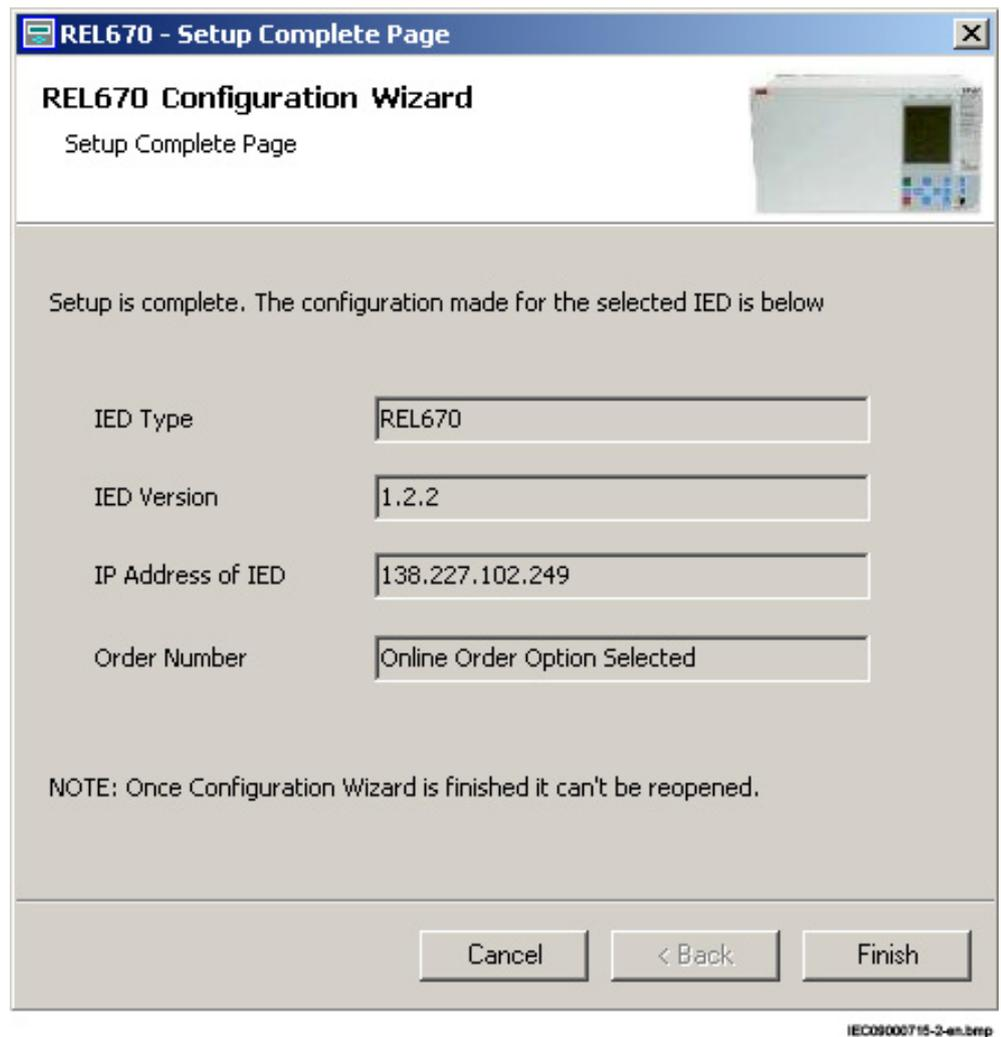

Figure 20: PCM600: IED Setup completion wizard
9. The *Setup Complete Page* dialog shows the summary of the *IED Type*, *IED Version*, *IP Address of IED* and *Order Number*, see Figure 20. It is possible to *Cancel* the insertion or confirm the configuration and do the insertion with *Finish*